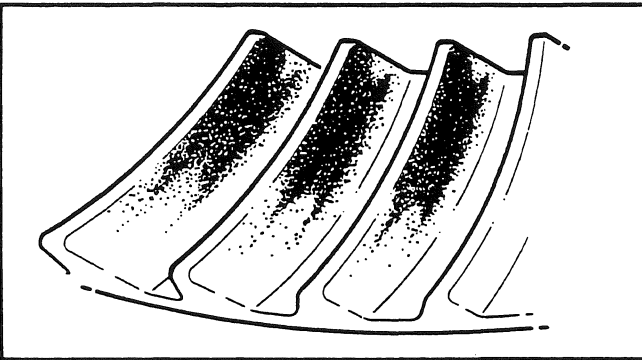
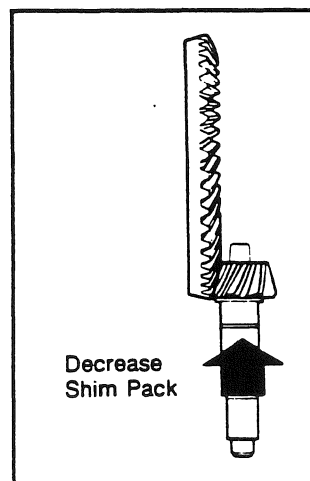

Fig. 81
Fig. 84
b) To correct a high contact pattern (see Fig. 81), decrease the shim pack thickness under the bearing cage. When you decrease the shim pack thickness, the drive pinion moves toward the ring gear (see Fig. 84).